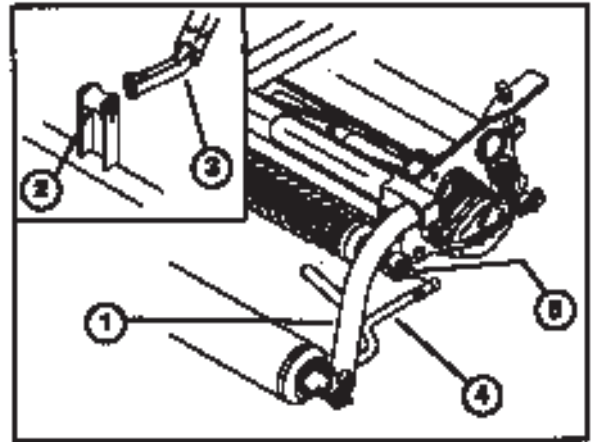

Figure 5
2. Mount a washer and ball stud to each end of the front roller on the cutting units (Fig. 5).
3. Slide the cutting unit under the pull frame while hooking the lift roller onto the lift arm (Fig. 5).